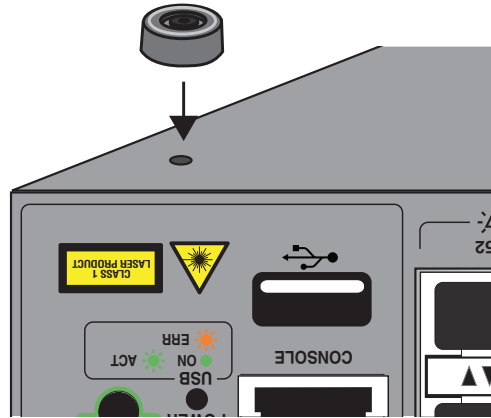

Figure 36. Placing the Bumper Foot on a Base Corner Hole
3. Place the bumper foot with rivet housing onto one of the holes in the base of the switch. Refer to Figure 36.